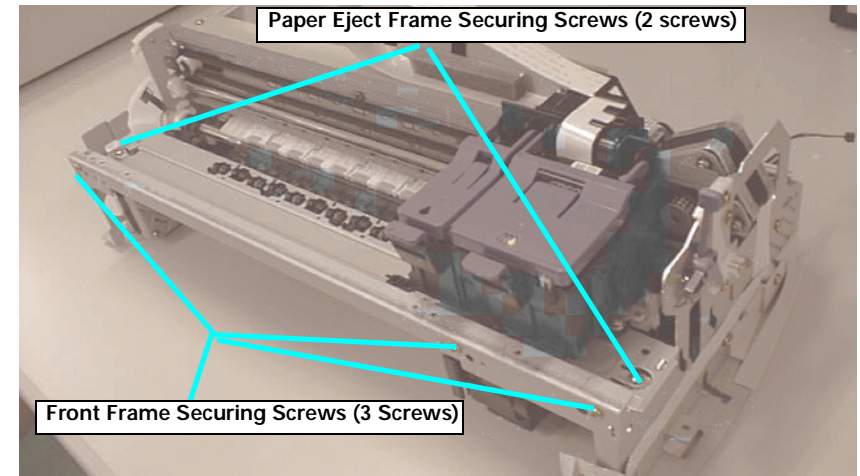

Figure 4-17. Front Frame and Paper Eject Frame Removal
4. Remove screws securing the Front Frame. (See Figure 4-17.)
5. Remove screws securing the Paper Eject Frame Assembly to the R/L Frame. (See Figure 4-17.)
4. Remove 3 screws and remove the Front Frame from the Printer Mechanism. (Refer to Figure 4-17.)
5. Remove 2 screws and remove the Paper Eject Frame from the Printer Mechanism. (Refer to Figure 4-17.) When removing the Paper Eject Frame from the Printer Mechanism, shift the CR Unit manually to the left side of the CR Shaft and remove it from the right side of the Paper Eject Frame towards the front side of the printer. Then move the CR Unit to the center of the CR Shaft and remove the left side of the Paper Eject Frame towards the front side of the printer. (Refer to Figure 4-17.)